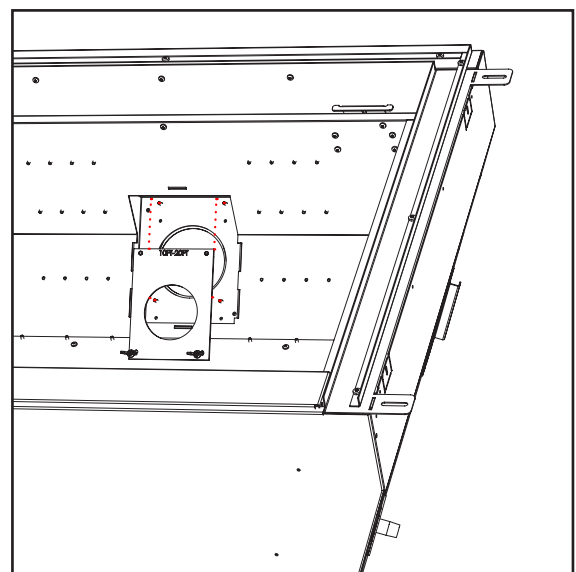

Figure 25c.
Wingnuts are to be used on the bolts that protrude from the bottom of the plate. seen in figure 25c.
Step 6. Fasten wingnuts to the bottom bolts only. Fig.25c